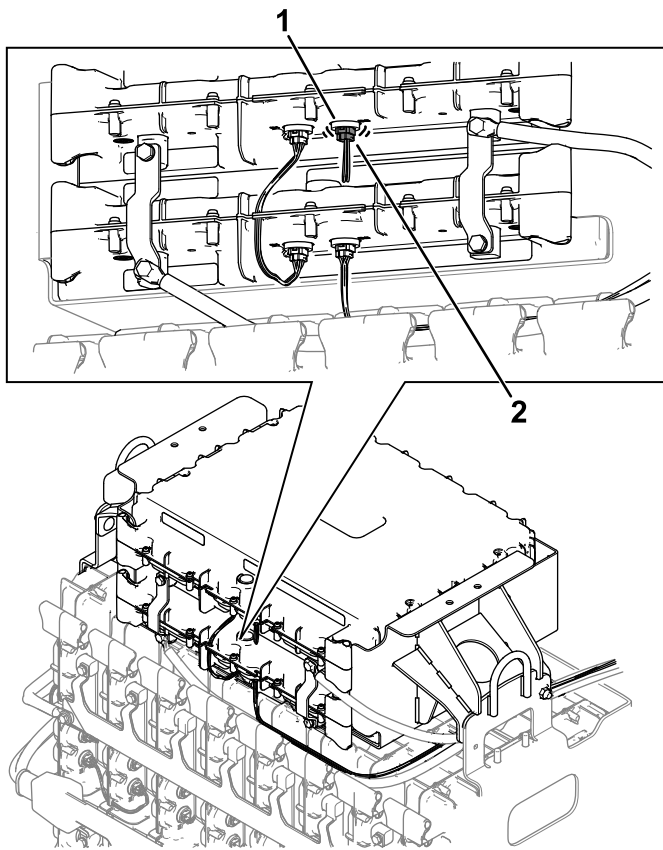

Figure 9
5. Install the wire harness (CAN) that you removed in step 3 to the D2 battery port on the top battery in the battery tray (Figure 9).